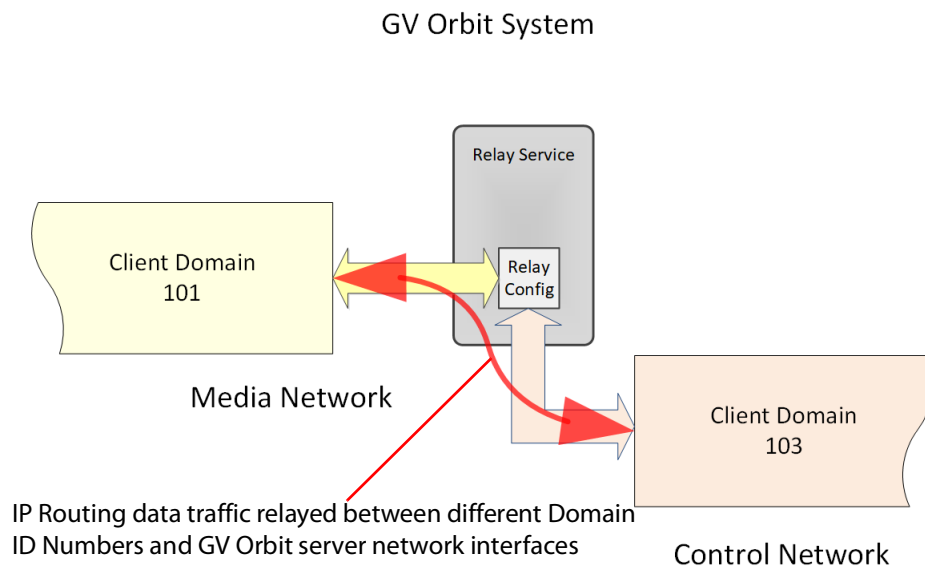

Figure 4: Relay IP Routing Traffic Use Case
- IP Routing data between different networks/Domain ID Numbers. Data is sent in *both* directions (to and from) between the networks/Domain ID Numbers involved. See Figure 4.